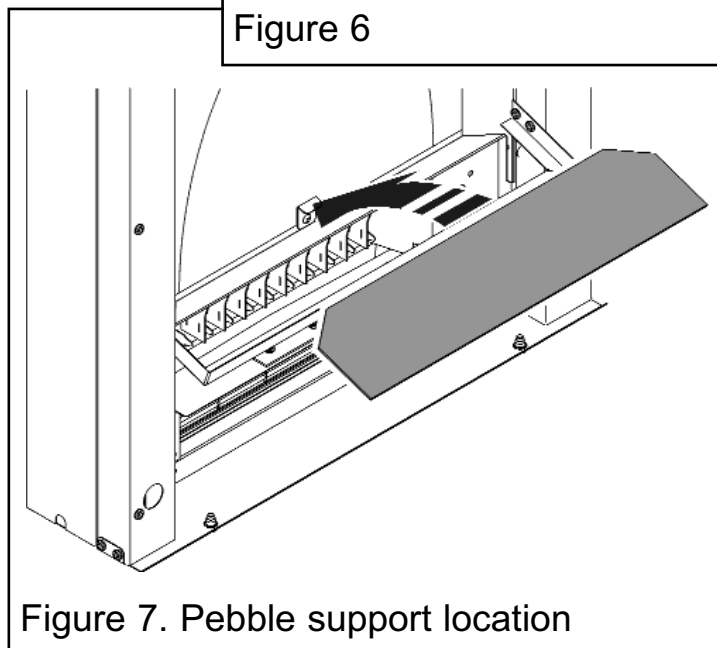

Figure 7. Pebble support location
2. Locate the fuel support. The rear of the fuel support should rest on the small bracket at the base of the screen (See figure 7).